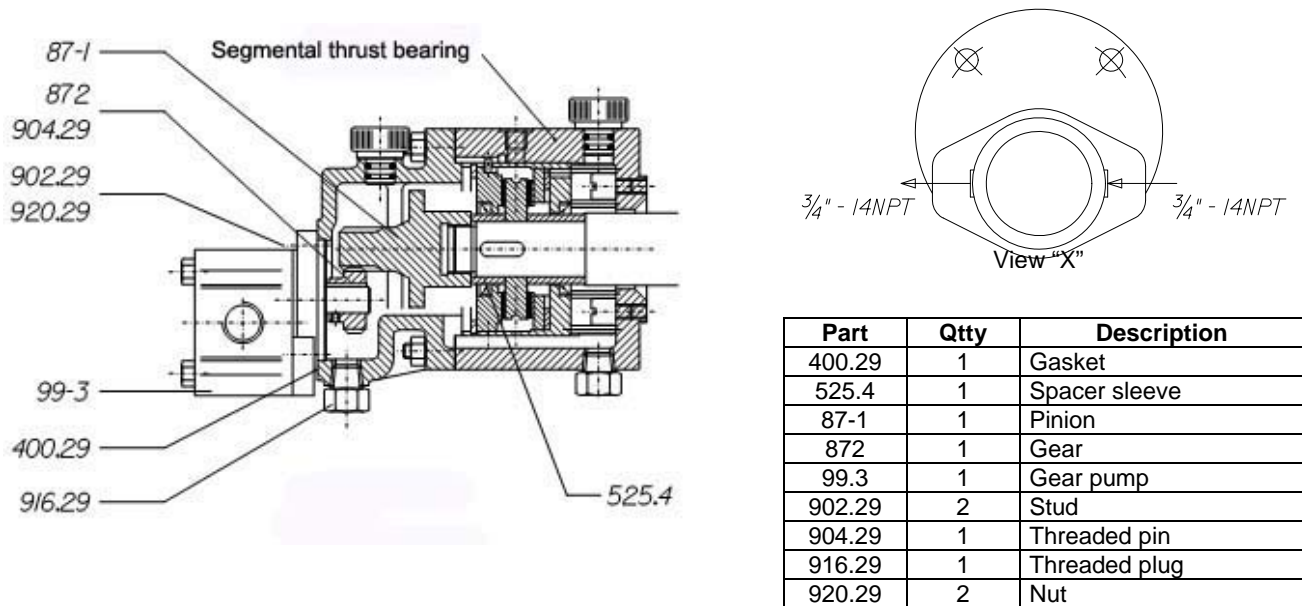

Figure 44 - Gear pump
- If also a gear pump directly connected to the pump shaft is supplied, consider for assembly, the details indicated in the figure 44.